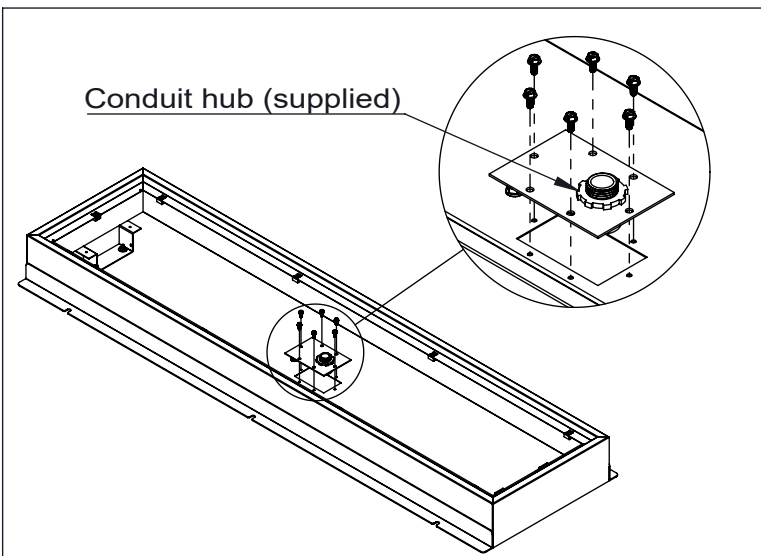

Figure 3
3. Remove access cover panel fasteners, then remove access cover panel (Fig. 3).